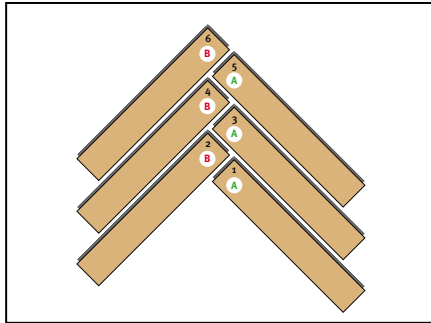
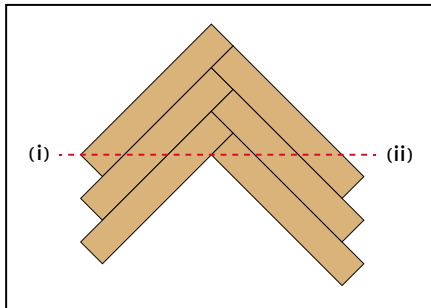

Figure 25
Figure 26
- ▶ Take A-planks and B-planks and position them as shown in (Fig 25).
- ▶ Install the planks precisely and in the order indicated by the numbers on the planks in (Fig 25). Carefully check that each individual plank is correctly aligned and engaged. Mark a line from points (i) to (ii) as illustrated in (Fig 26), ensuring that a 45 degree angle is achieved.